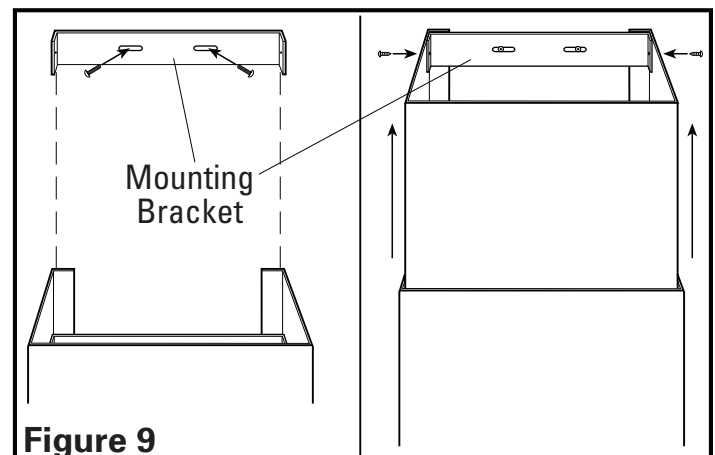

Figure 9
4. To install the upper section, mark the location of the included horizontal mounting bracket using the bracket as a template. Make sure the bracket is level and in line with the bottom section. The height will be dependent on your installation requirements. Make sure the slots in the side of the chimney will match the holes in the mounting bracket. If installing onto drywall, drill holes into wall using a 3/16" drill bit. Install wall anchors into the drilled holes (one for each hole). Secure bracket into place with (2) provided #6 x 1" screws. If installing into other material (brick, cement, plaster, etc.) choose an appropriate fastener capable of supporting the weight of the chimney (**Figure 9**).
- Raise top chimney in place over horizontal mounting bracket and secure in place with the two included #6 x 3/8" screws (Figure 9).